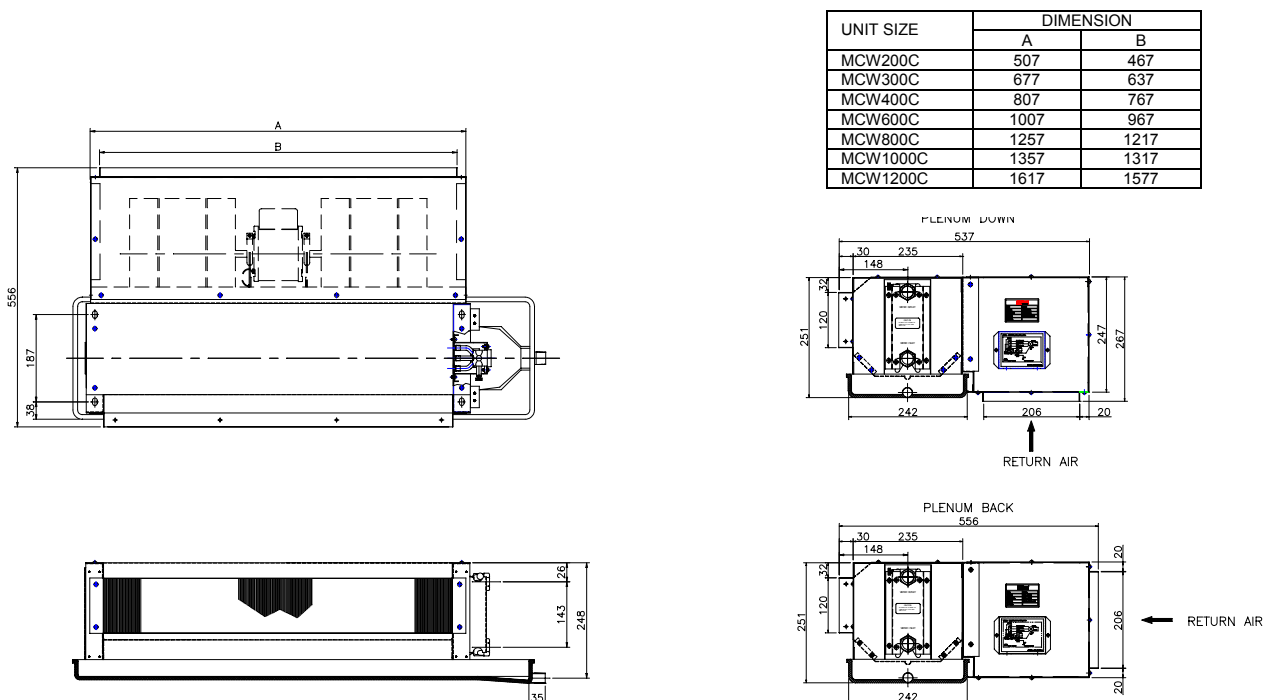

Figure 2
1. There must be enough space for the unit installation and maintenance. Please refer to Figure 2 for the unit's outlines and dimensions and Figure 3 for the minimum distance between the unit and the obstacle.
Air duct which is made of galvanized steel can be connected to the flange of the unit. Refer to Figure 2 for the unit dimensions. Insert the duct into the flange and fix with screws. If dimensions of the duct and flange are different, connect with a connector between them.